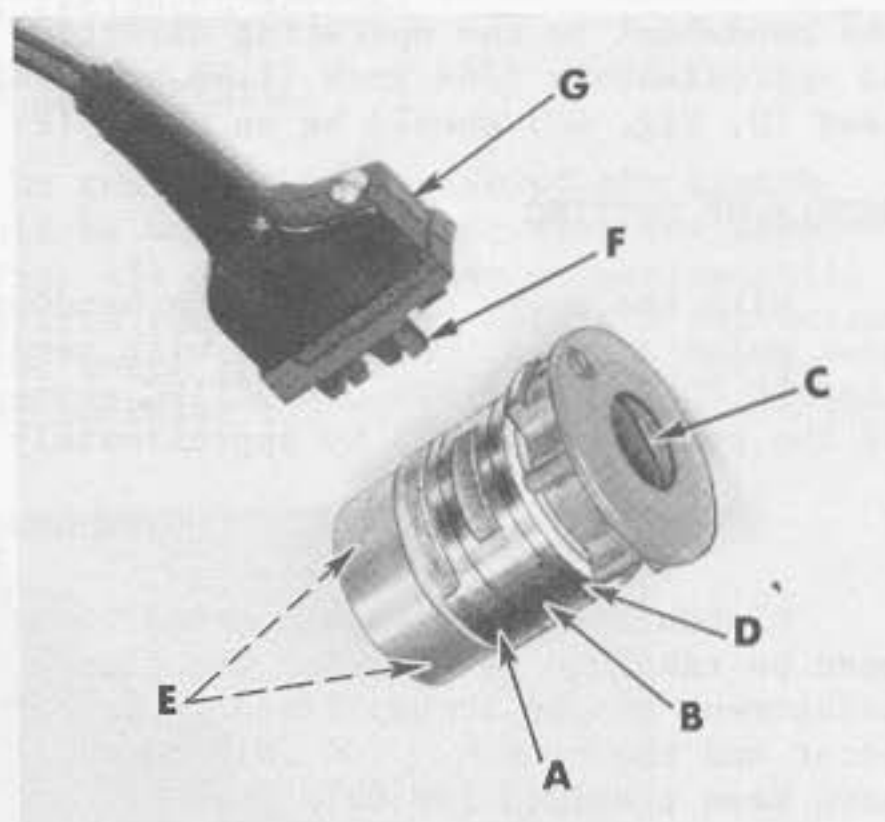
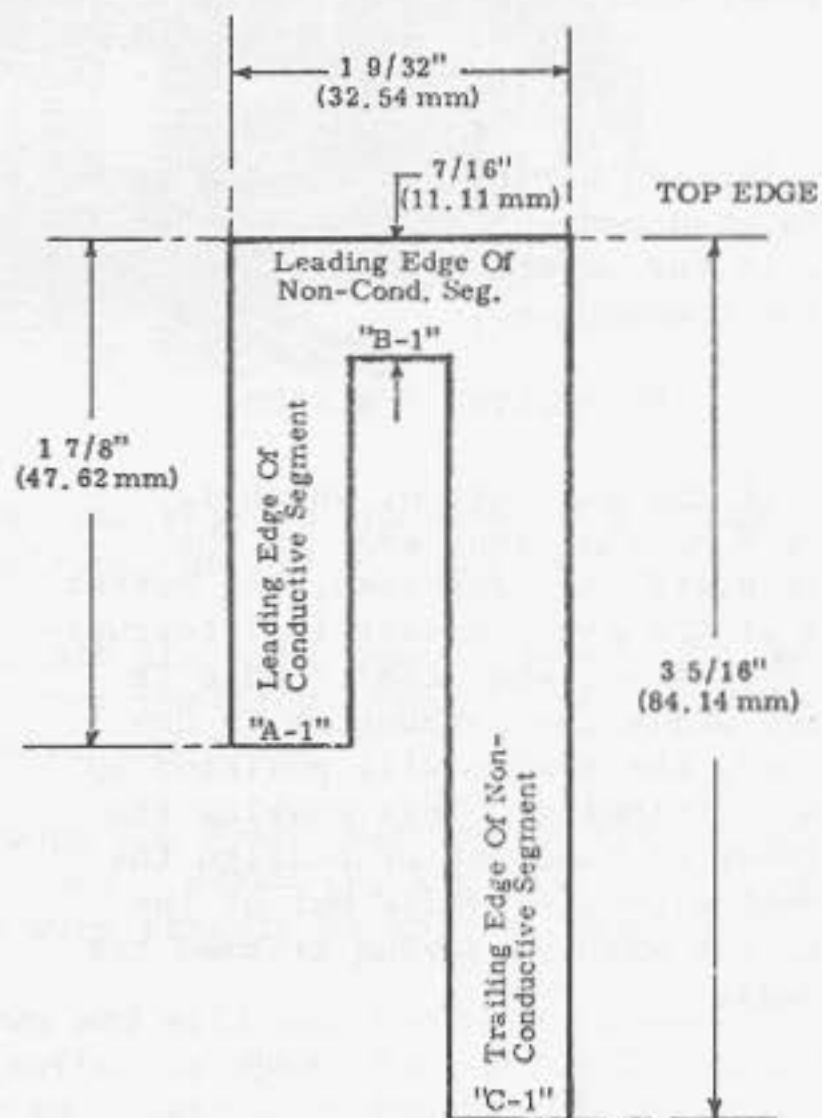

Fig. 40
Fig. 41
The synchronizer is composed of three slip rings and four carbon brushes. The hub, band (A, Fig. 40) is fixed on the synchronizer and controls the "cutting mechanism". Band (B) is adjustable by means of screw (C) and controls the "needle-up" position. Band (D) is also adjustable by means of screw (C) and controls the "needle-down" position.
Assemble the brush holder and bracket to the machine as shown in Fig. 1B and the synchronizer to the handwheel adapter. Do not tighten screws (E, Fig. 40) in the synchronizer hub, band (A) at this time. Loosen screw (C) so that bands (B and D) may be moved freely.
Figure 41 is provided to show dimensional relationships for setting the bands of the synchronizer. A plastic rule may be used for making these settings as compared to the sketch in Fig. 41. Visualize from the operator's position while seated at the machine, placing the top edge of sketch (Fig. 41) over the top of the bands until contact is made FLUSH with the edge of the brushes (NOT THE BRUSH HOLDER) and proceed as follows;
Rotate hub, band (A, Fig. 40) of the synchronizer in the operating direction until the LEADING EDGE of its CONDUCTING segment aligns with ("A-1", Fig. 41) 1 7/8 inches (47.62 mm). Secure the synchronizer to the handwheel adapter in this position by screws (E).
Rotate band (B, Fig. 40) in the operating direction until the LEADING EDGE of its NON-CONDUCTING segment aligns with ("B-1", Fig. 41) 7/16 inch (11.11 mm). WHILE HOLDING BAND (B) IN THIS POSITION, rotate band (D) in the operating direction until the TRAILING EDGE of its NON-CONDUCTING segment aligns with ("C-1", Fig. 41) 3 5/16 inches (84.14 mm).
With the power off, remove the throat plate and turn the handwheel in the operating direction until the needle has reached its lowest position; continue to turn the handwheel in the operating direction until the hook point has passed the needle by approximately  $5/64$  inch (1.98 mm). At this point, the NON-CONDUCTING segment of band (D, Fig. 40) should be on brush (F).